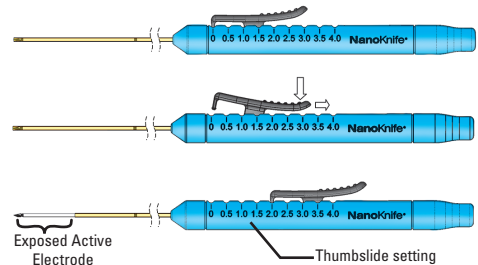

Figure 6: Electrode exposure adjustment
13. Verify the length of the exposed electrode indicated by the thumb slide on the handle (see Figure 6).